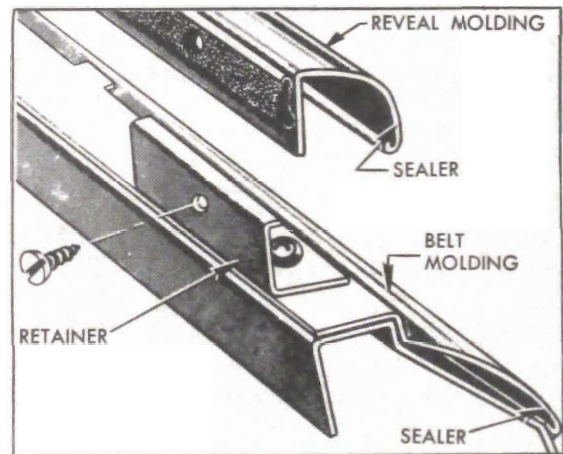

Figure 13-25—Door Lower Reveal and Belt Molding Attachments
4. Remove screws attaching molding to retainers on door, then lift molding up to remove it. See figure 13-25.
5. Before installation of reveal molding apply 3-M Autobody Sealer along inside of outer curled edge, (fig. 13-25), then install molding by reversing procedure for removal.
2. Remove screws and reveal molding retainers along lower edge of window opening, then remove belt molding. See figure 13-25.
3. Before installation of belt molding, apply 3-M Autobody Sealer along inside of outer curled edge (fig. 13-25), and to all retainer screw holes, then install molding by reversing procedure for removal.